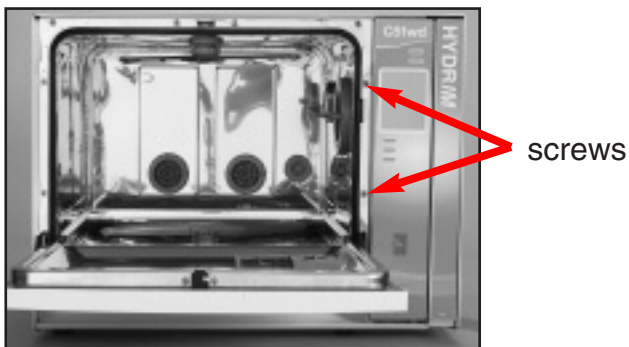

Figure 18c
3. Remove the two screws that hold the fascia to the chamber (Figure 18c).